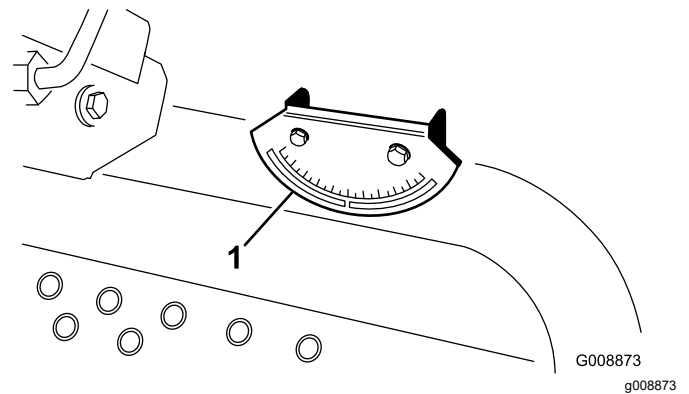

Figure 6
2. Verify that the machine is level by placing a handheld inclinometer (supplied with the machine) on the frame cross rail, by the fuel tank (Figure 6). The inclinometer should read zero degrees when viewed from the operator's position.